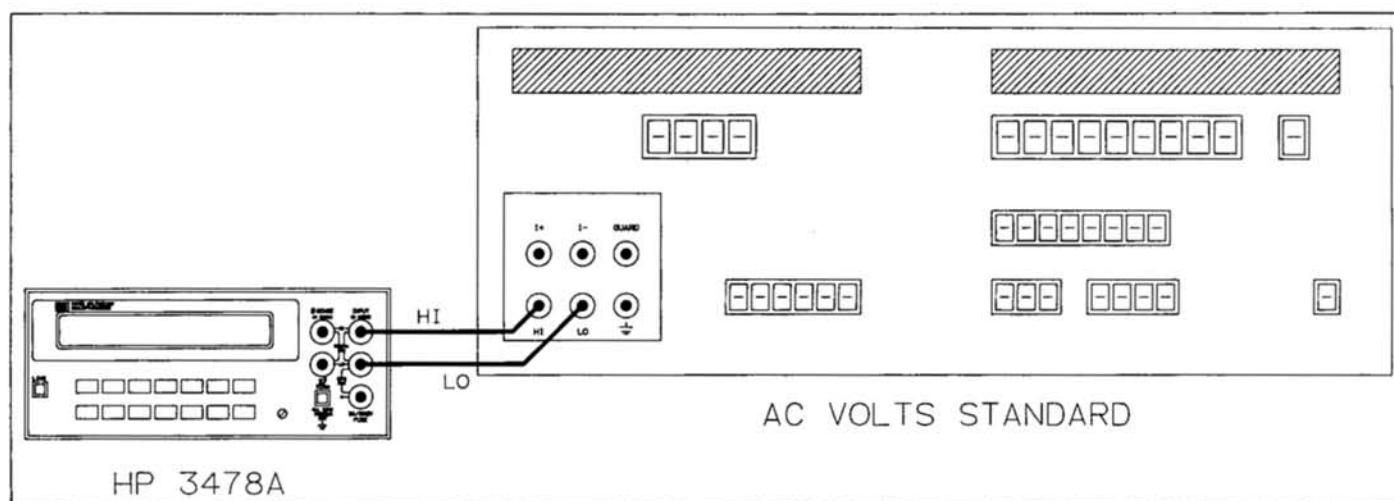

Figure 4-5. AC Voltage Test and Calibration Connections.
- Connect the AC Volts Standard output to the 3478A HI and LO INPUT terminals as shown in Figure 4-5. Set the AC Volts Standard for an output of 0.028V at 20KHz.